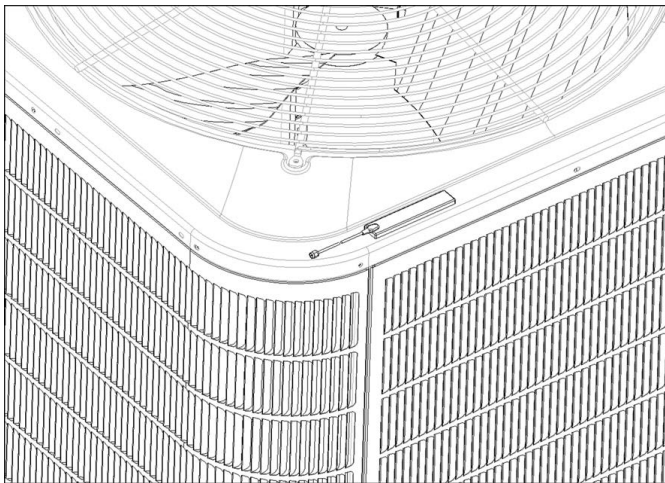

Fig. 11 – Cellular Antenna Installation
3. Peel off the adhesive backing and mount the cellular antenna onto the top corner of the Outdoor Unit with the best cellular performance (see Fig. 11)